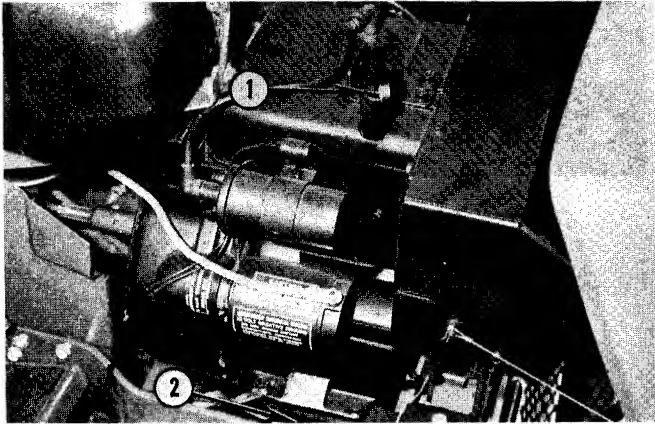

Fig. 14 — Engine Crankcase Lubrication
CHECK CRANKCASE — FIG. 14
1. Remove crankcase drain plug, Fig. 14.
2. Replace drain plug and fill crankcase, Fig. 14, with SAE 30 oil, Service Class SE/CC (see Temperature Chart).